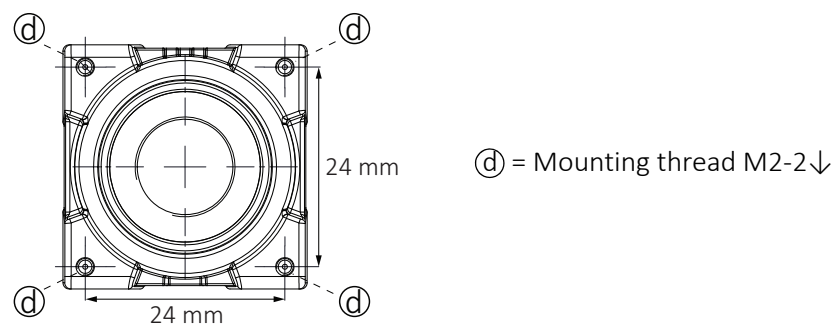

Figure 25: Alvium USB camera, lens mount with mounting threads
1. Mount the camera to the base using suitable M2 screws at 0.18 Nm maximum torque for a thread engagement of 2 mm between screws and mounting threads, see Figure 25. For technical drawings, see Camera dimensions on page 37.